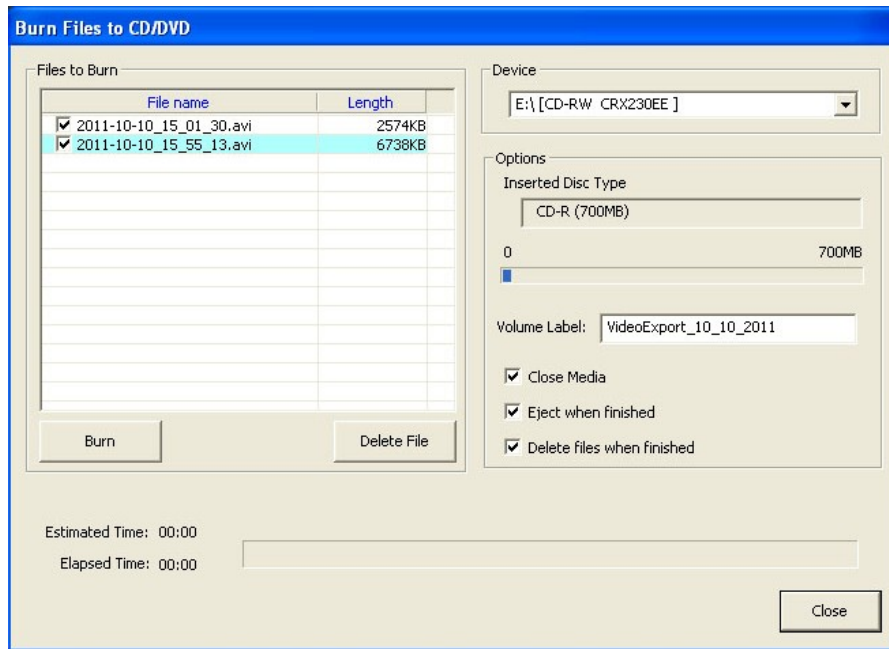

Figure 5-8 Burn Files to CD/DVD window
4. The "Burn CD" button will be blinking in red if there are some saved files to be burned. Click on the "Burn CD" button to show the "Burn Files to CD/DVD" window as shown in Figure 5-8 on the next page.